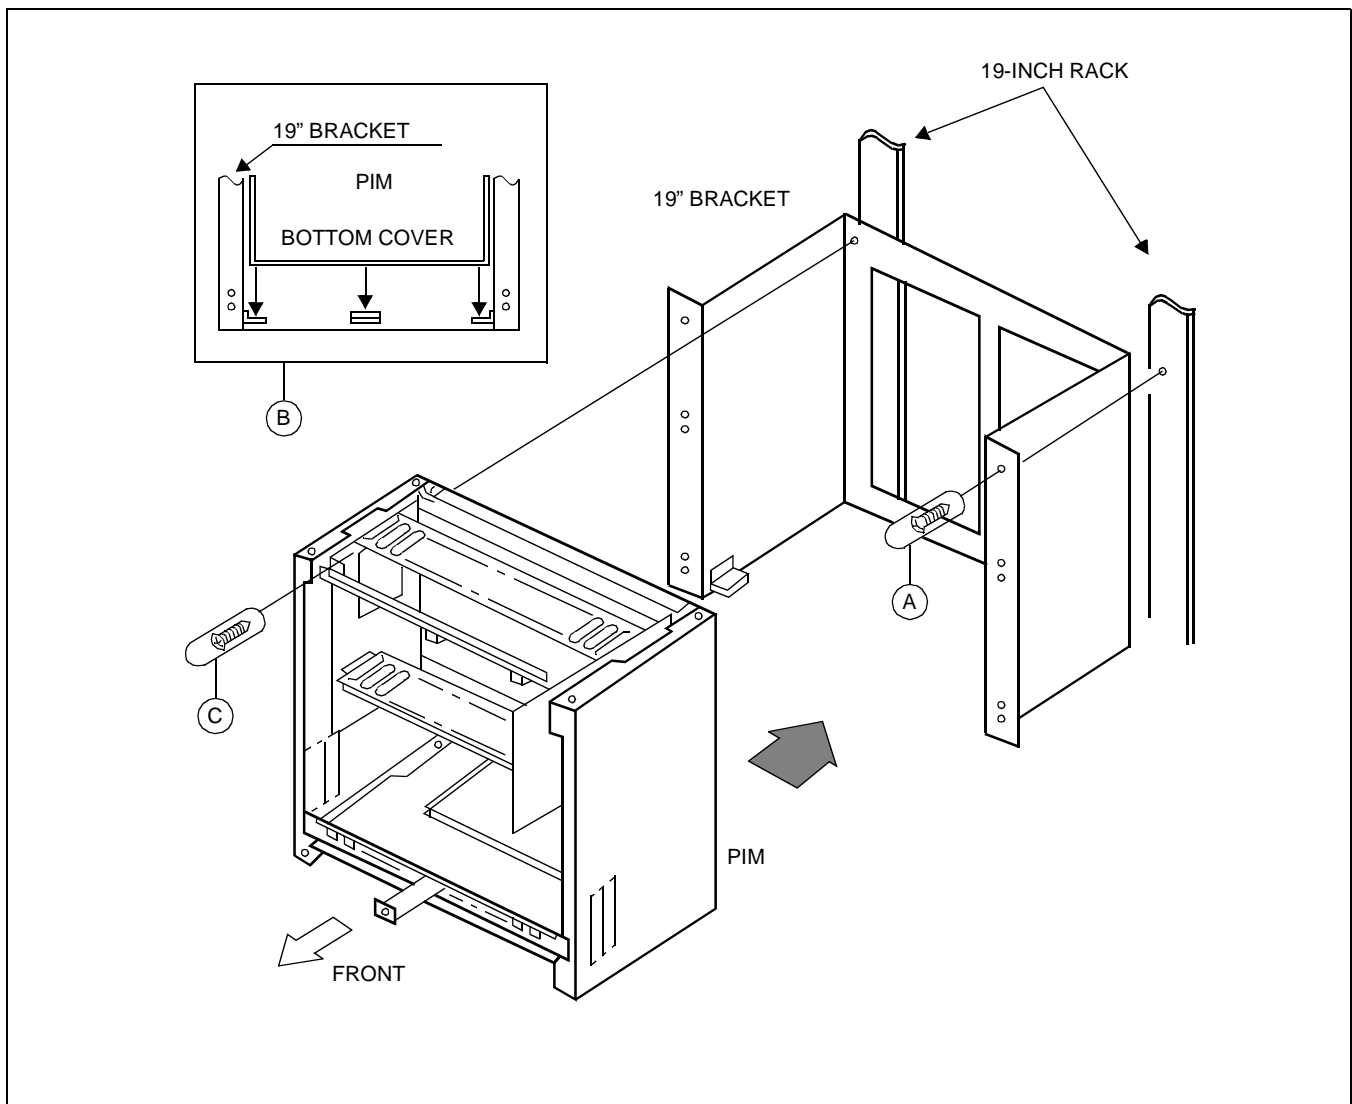

Figure 003-26 Mounting the PIM to the 19-Inch Rack (1 of 2)
- (2) Secure the 19" BRACKET to the 19-inch Rack as shown in Figure 003-26 \(A\).
- (3) Mount the PIM on the 19" BRACKET as shown in Figure 003-26 \(B\).
Then, secure the PIM to the 19" BRACKET as shown in Figure 003-26 \(C\).